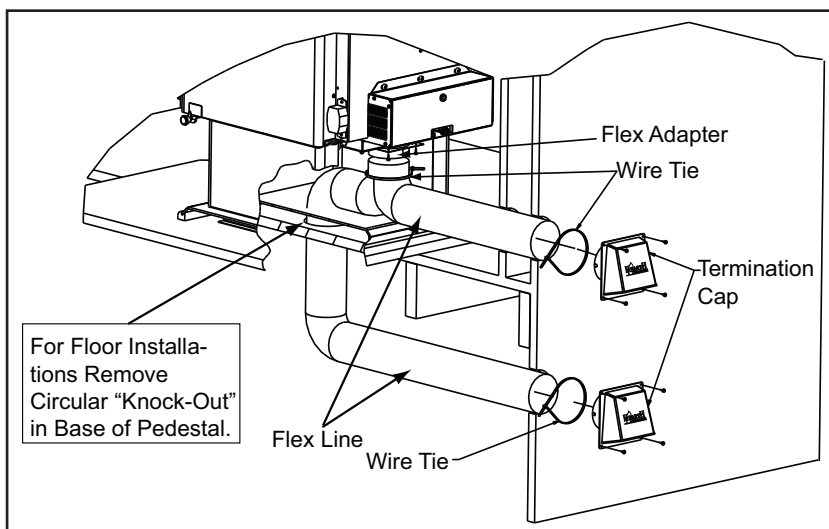

Figure 40.1 - Floor & Rear Installation
2. Using a #2 Phillips screwdriver attach the flex adapter to the appliance using 4 screws. **Figure 40.1**
5. **Floor Installation Alternative:** In some instances you may not be able to install the flex pipe as shown in **Figure 40.1**.